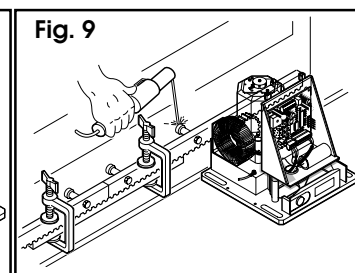

Fig. 9
8) Line up another rack section to the last one fixed to the gate. Use a section of rack of about 150 mm and ensure that the teeth are correctly spaced (fig. 9).
9) Slide the gate by hand towards its closed position until the third spacer of the section to be fastened is aligned with the pinion (fig. 9).
10) Weld the three spacers of the section (fig. 9).